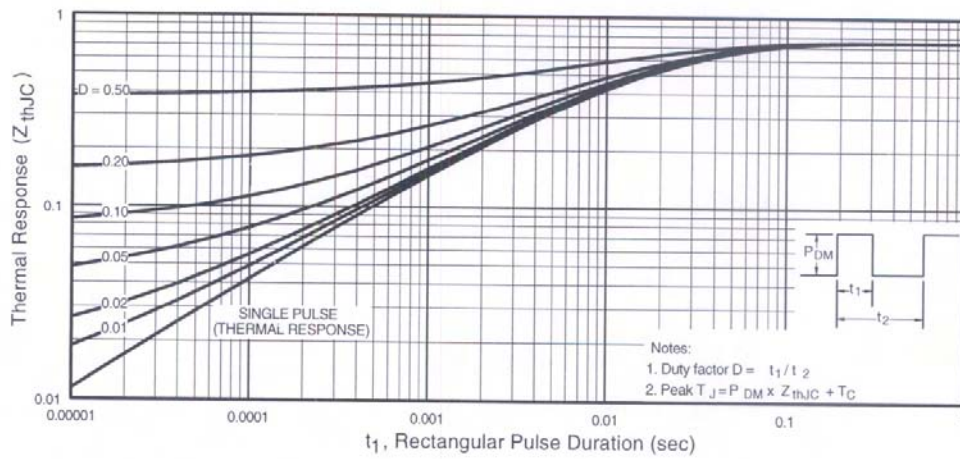

Fig 11. Maximum Effective Transient Thermal Impedance, Junction-to-Case
① Repetitive rating; pulse width limited by max. junction temperature. (See fig. 11)
④ Pulse width $\leq 300\mu s$; duty cycle $\leq 2\%$.
② Starting $T_J = 25^\circ\text{C}$, $L = 2.4\text{mH}$